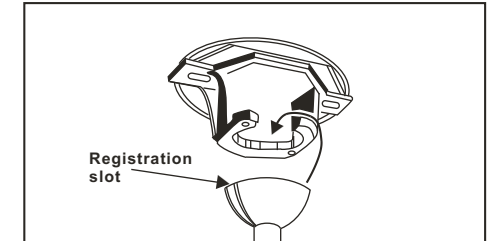

Figure 10
6. Now lift motor assembly into position and place hanger ball into mounting bracket. Rotate until the check groove drops into the registration slot and seats firmly. (Figure 10) Downrod should not rotate if this is done correctly.